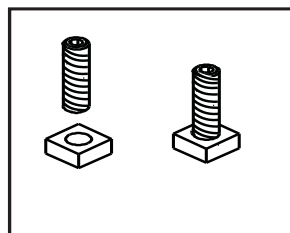

Figure 20.5
1. Thread Allen bolts through nuts until flush. **Figure 20.5.** The Allen bolts and nuts are included in the component pack inside the stove firebox.